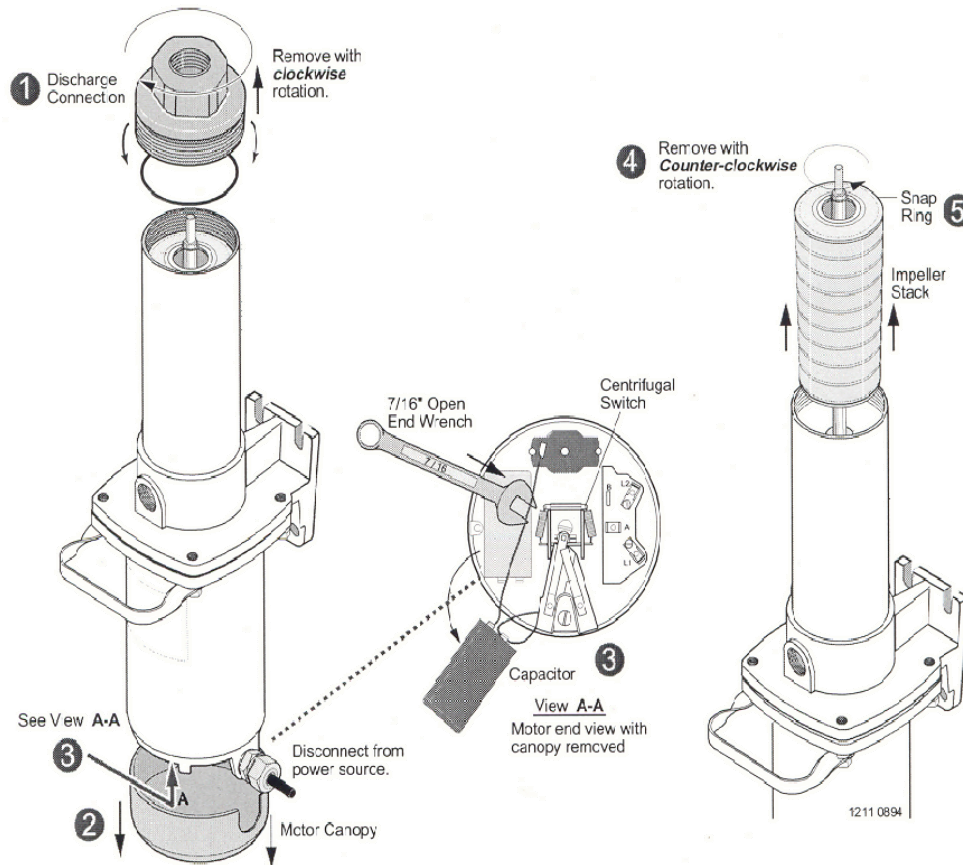

Figure 7 – Impeller stack changeout.
**Impeller Stack Changeout (See Figure 7)**
(refer to Figures 7 and 8)
First complete "Disassembly" instructions 1 through 5 under "Impeller Stack Changeout." (see Figure 7).